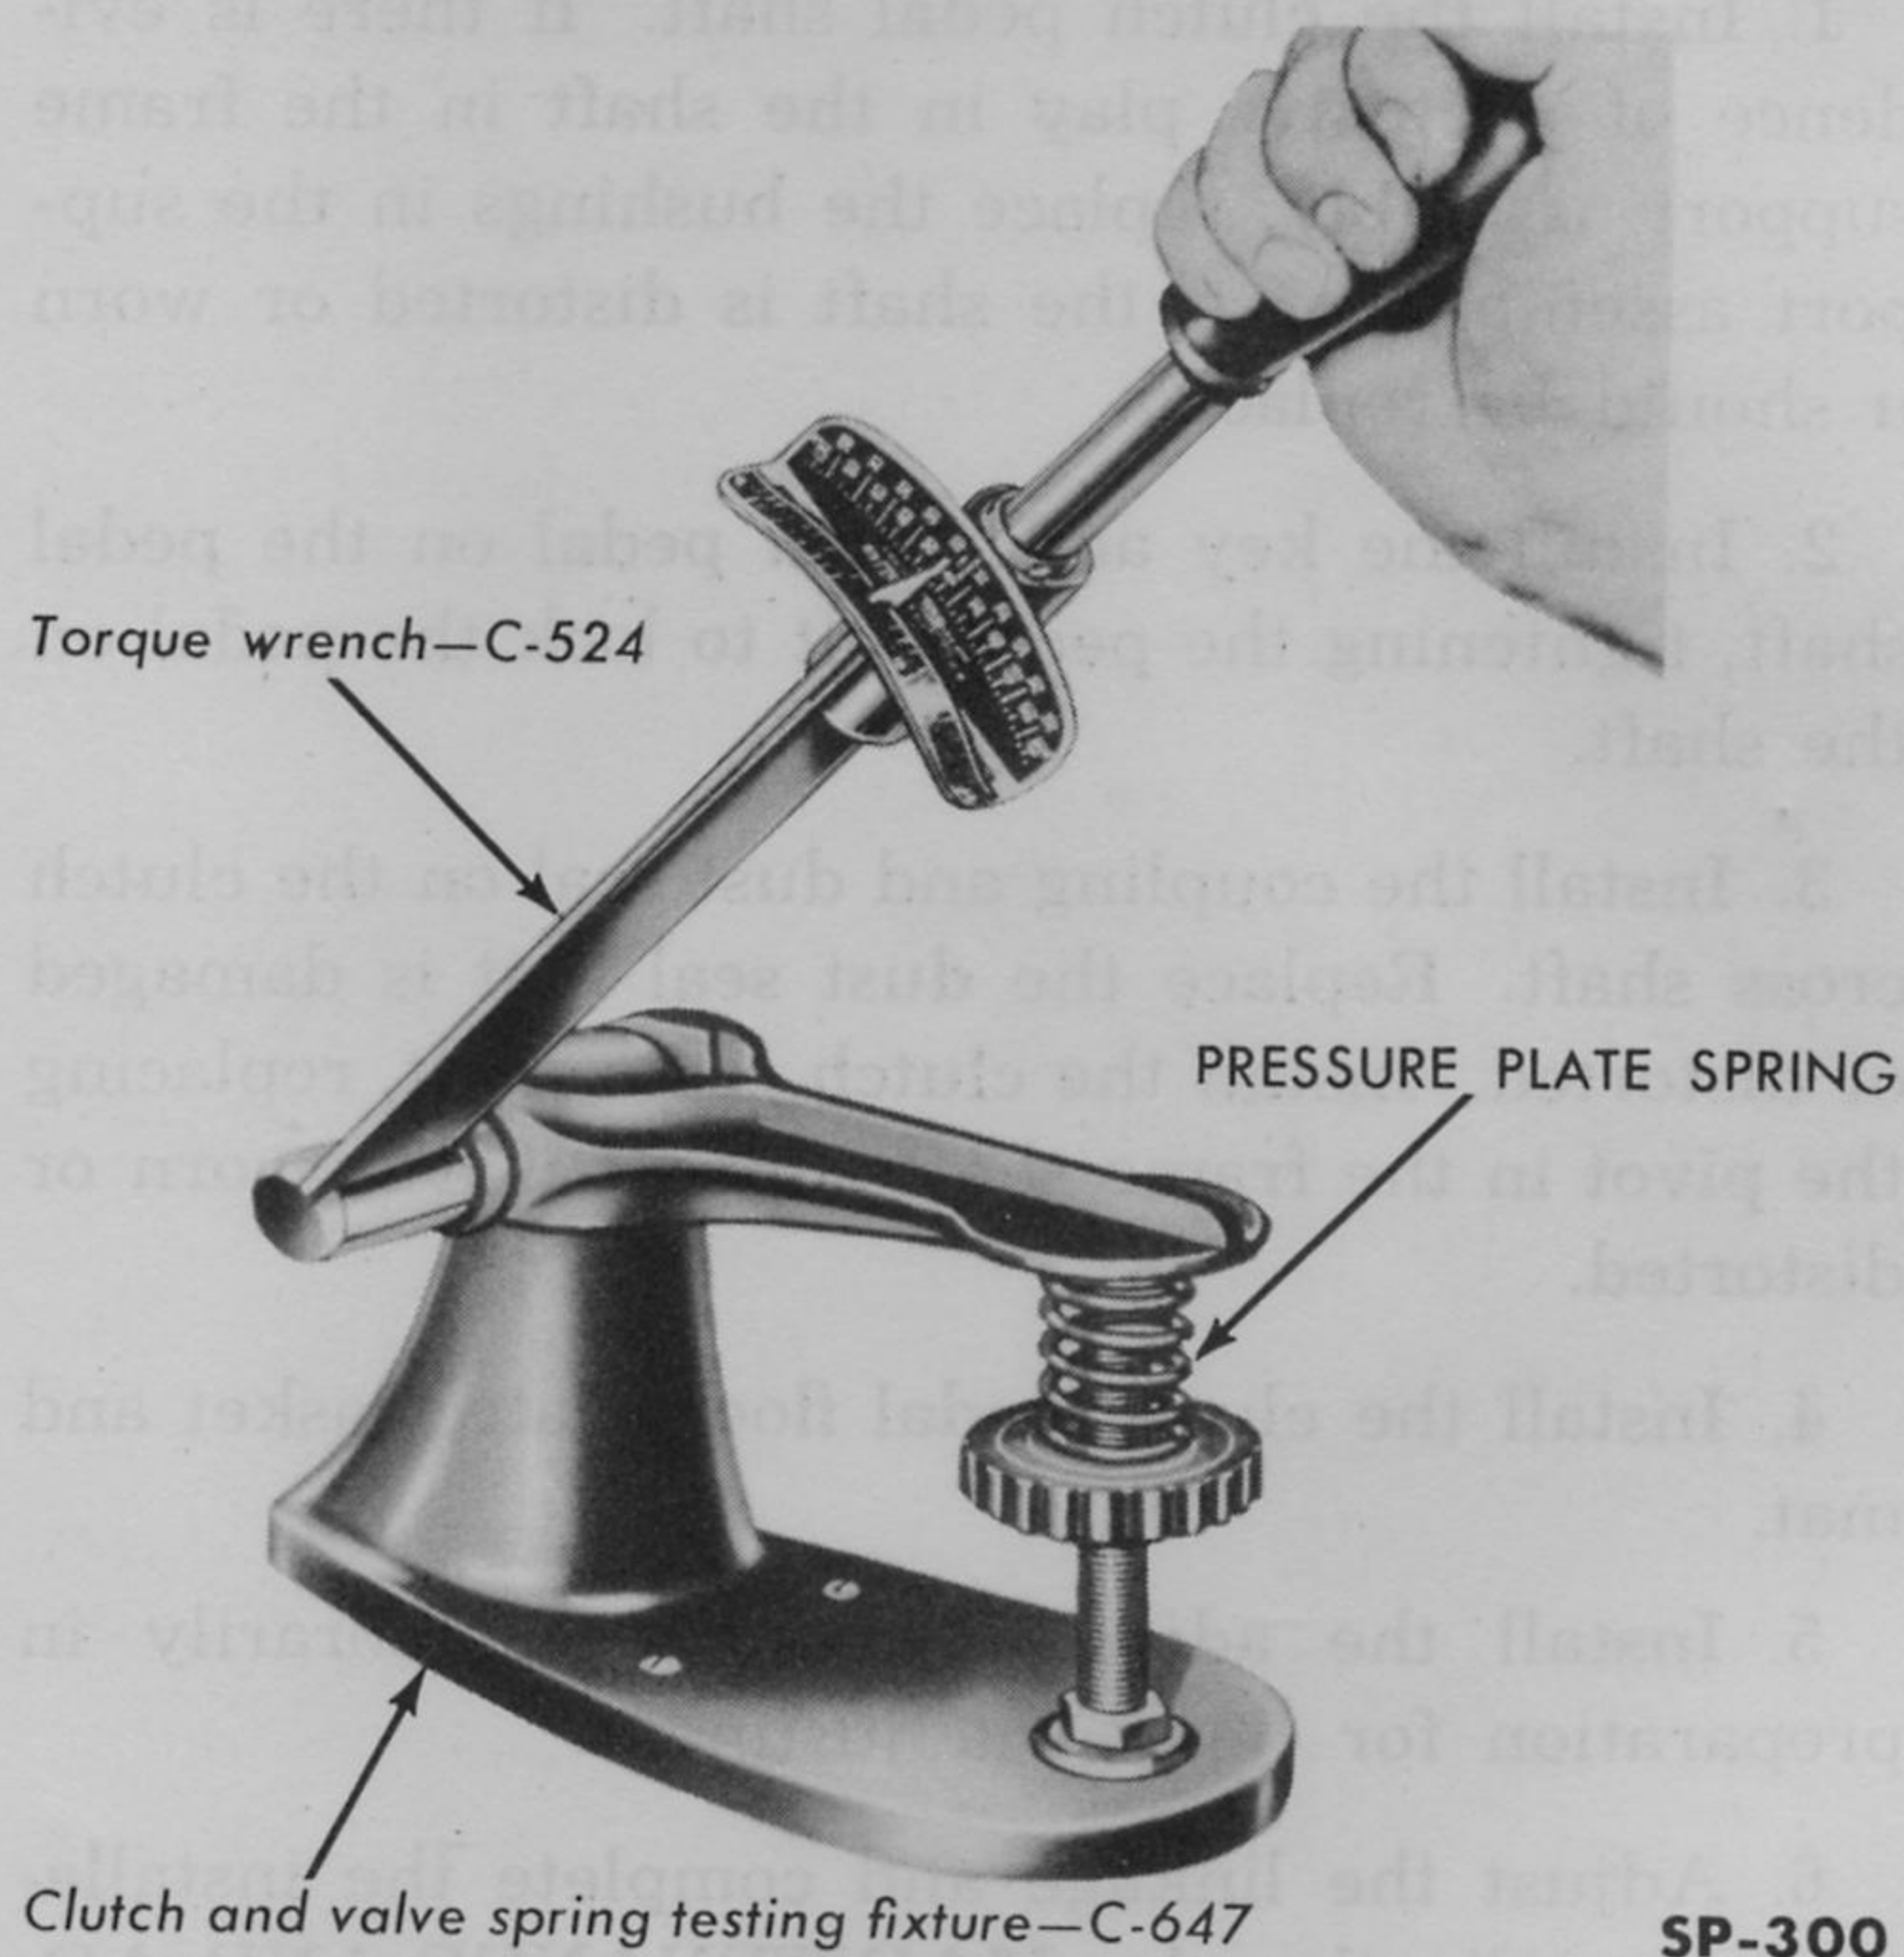

Fig. 171—Checking Clutch Pressure Plate Springs
(Fig. 171). At 1½ inches height the correct spring load is 155 to 165 lbs. for (tan spring) a 9-spring clutch and 239 to 251 lbs. for a (white spring) 6-spring clutch. Check the pressure plate levers for wear and replace if worn.
2. Inspect All Components. Determine if the pressure plate is warped or scored—if so it must be replaced. Check the clutch pressure plate levers for wear and replace if required. Check the clutch pressure plate springs using the Clutch and Valve Spring Testing Fixture C-647 (Fig. 171). At $1\frac{3}{16}$ inches height the correct spring load is 239 to 264 pounds.